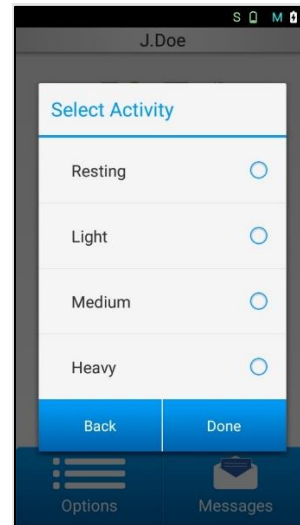

Figure 14-2 Select Activity
7. If you select at least one symptom event, the next screen that displays is the *Select Activity* screen (See Figure 14-2). This allows an indication of the level of activity performed when the event occurred. Press 'Done' to finish the process, or 'Back' to return to the *Select an*